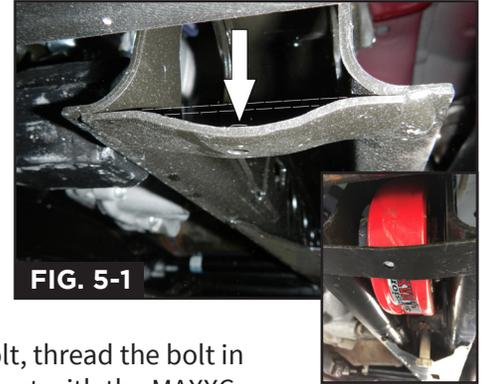

FIG. 5-1
**NOTICE:** A slight adjustment of torsion bar cross-member may be required to clear MAXXCAM 7 Leveling kit (FIG 5-1)